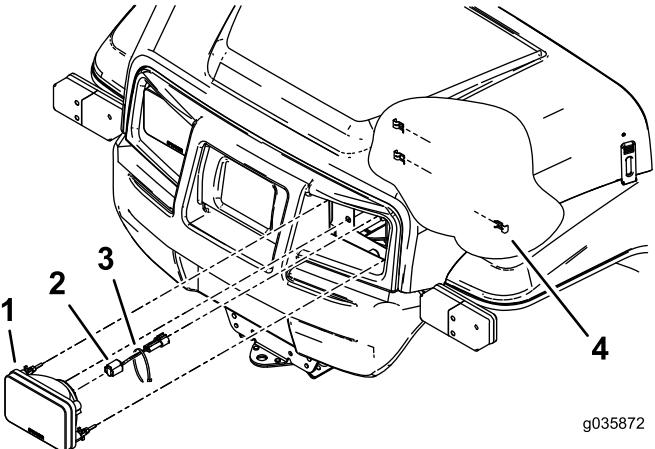

Figure 2
2. Install a headlight adapter to each headlight (Figure 2).
3. Install the headlights into the front of the machine and secure them with the existing clips (Figure 2).